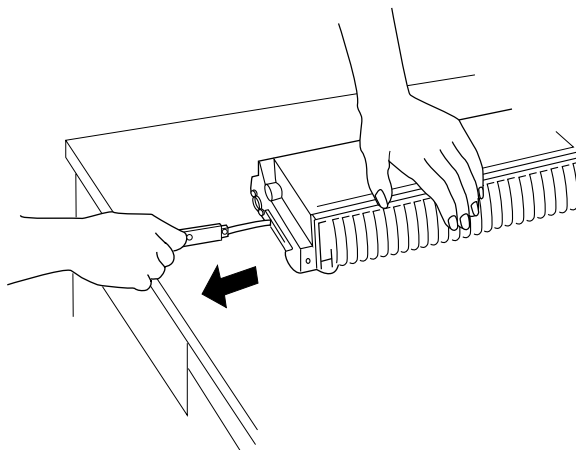

Fig. 6.5 *Removing the Toner Cartridge Seal*
2. Grasp the orange tab protruding from the side of the cartridge and flex it to break it loose. Pull the tab and the attached clear tape (18 inches/457.2 mm) completely out of the cartridge (fig. 6.5). Discard the tab and tape.